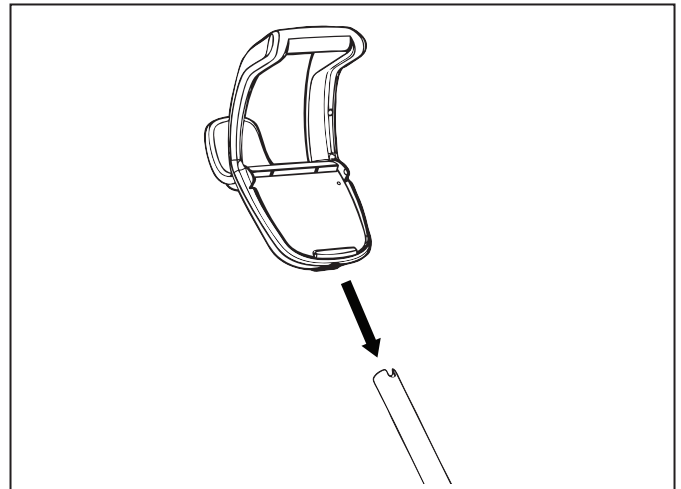

Figure 6. Attach Caddy Handle
- Slide the control box base / caddy handle attachment down over the metal tubing until it snaps into place (Figure 6).